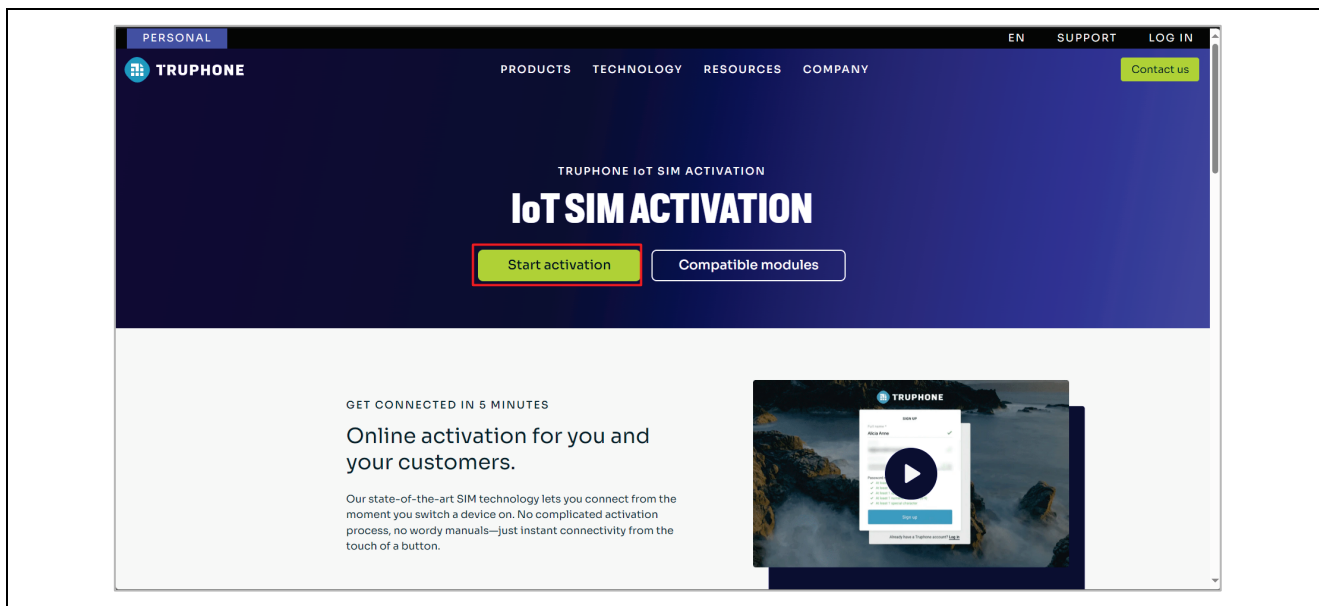

Figure 9. Activating the SIM card
1. On the opened webpage (snapshot shown in the Figure 9), click **Start activation** button under **IoT SIM Activation**.